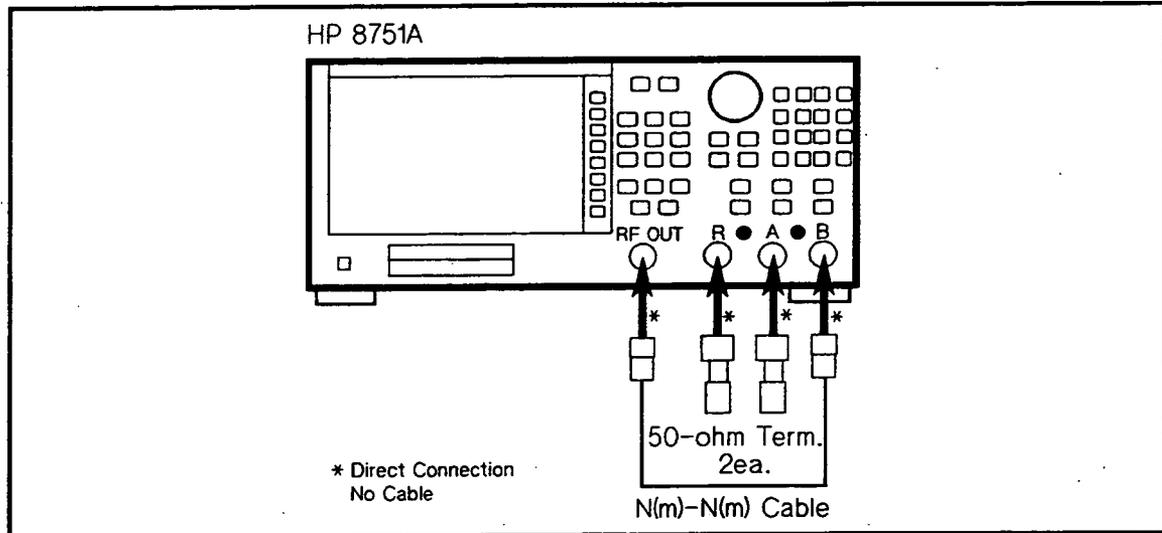

Figure 1-3. Crosstalk Test Setup 3
- b. Connect the equipment as shown in Figure 1-3.